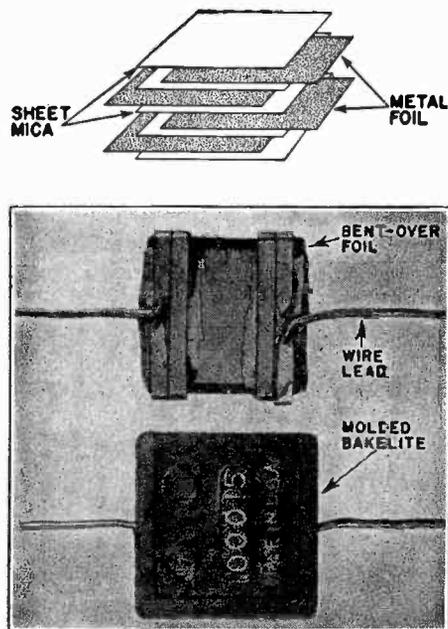

FIG. 20. How a mica condenser is made.
**Mica Condensers.** There is only one *mica condenser* in our receiver. It is a tiny unit encased in molded brown bakelite, and located just about in the exact center underneath the chassis. (See Fig. 18.) The mica condenser gets its name from the fact that sheet *mica* is used as the insulation between the metal plates. The construction is shown in Fig. 20.